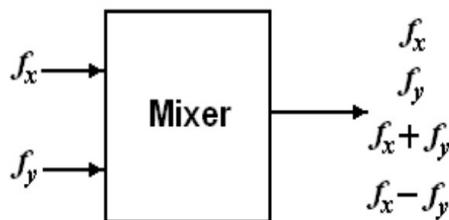

Fig6a: A mixer produces the original frequencies, the sum, and the difference
- An electronic mixer is a device that combines two or more electrical or electronic signals into one or more composite output signals as shown in Fig.6a. Multiplying mixers multiply together two time-varying input signals instantaneously (instant-by-instant). If the two input signals are both sinusoids of specified frequencies f_x and f_y , then the output of the mixer will contain two new sinusoids that have the sum $f_x + f_y$ frequency and the difference frequency absolute value $|f_x - f_y|$.
- In Fig.6a the input signals have frequencies of f_x and f_y . Because of non-linear distortion, the output signal contains the original input frequencies, sum and difference frequencies plus their harmonics. For instance, if the two input frequencies are 100 and 101 kHz, the output signal contains the frequencies, 100, 101, 200, 202, 300, 303 kHz, and so on. In addition to the harmonics that are produced, new frequencies appear in the output that are equal to the sum and difference of the two input frequencies.